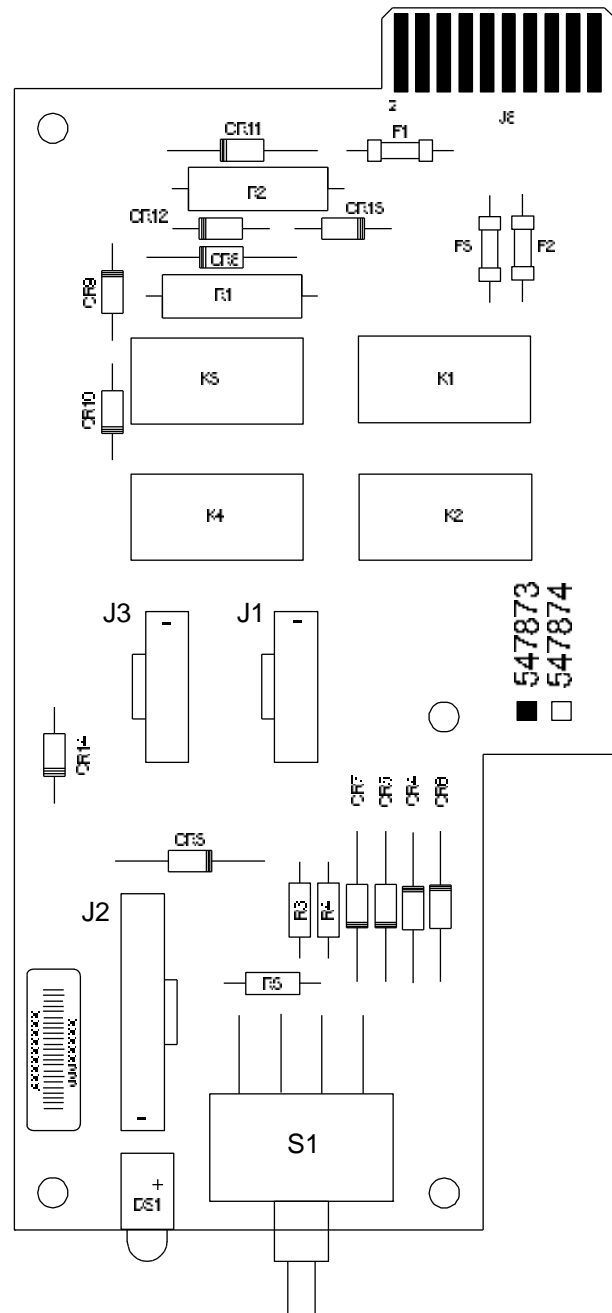

Figure 4-15
- 6) Carefully label the connectors plugged into the circuit card. These connectors must be plugged into the same connectors on the replacement circuit card. Refer to Figure 4-14 or Figure 4-15.
- 12) Push the LVD Inhibit Switch to the down (ON) position.